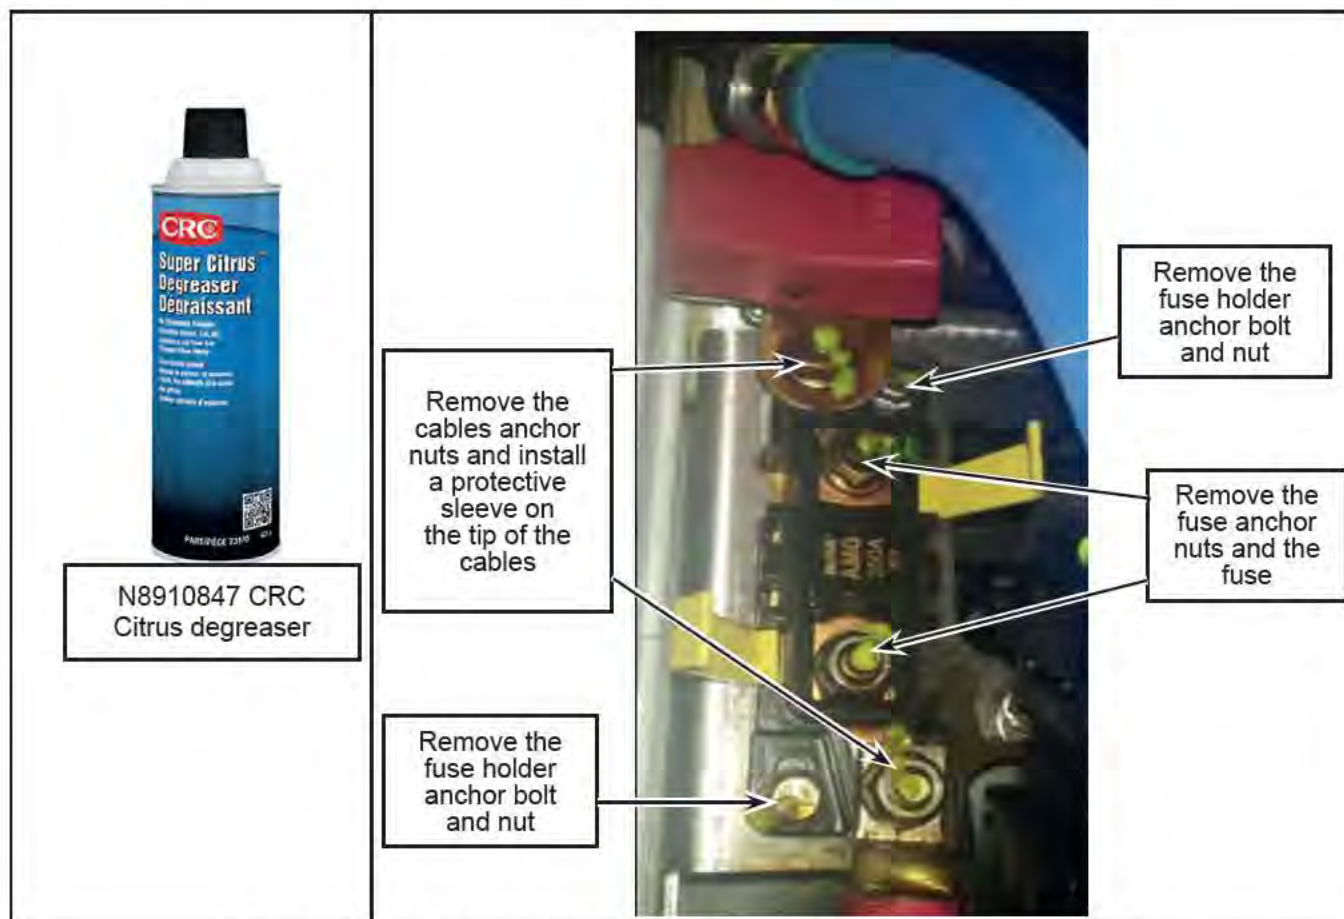

Figure 2 - N8910847 Degreaser and Detailed View of the Fuse Holder Installation
- 1.9. Clean thoroughly the lug of the cables, the fuse, the fuse holder terminals and the fuse holder anchor bolts preferably with CRC Citrus degreaser (P/N N8910847) or any equivalent product. See Figure 2.
- 1.10. Remove the M8 anchor nuts which affix the cables to the fuse holder. Install a protective sleeve on the tip of the cables to avoid any contact with the structure. Retain the M8 nuts. See Figure 2.
- 1.11. Remove the M8 anchor nuts which affix the N47759-250 to the fuse holder N84769. Retain the nuts. See Figure 2.
- 1.12. Remove the M6 anchor bolts and nuts which affix the fuse holder to the structure. Retain the bolts, nuts and the fuse holder. See Figure 2.